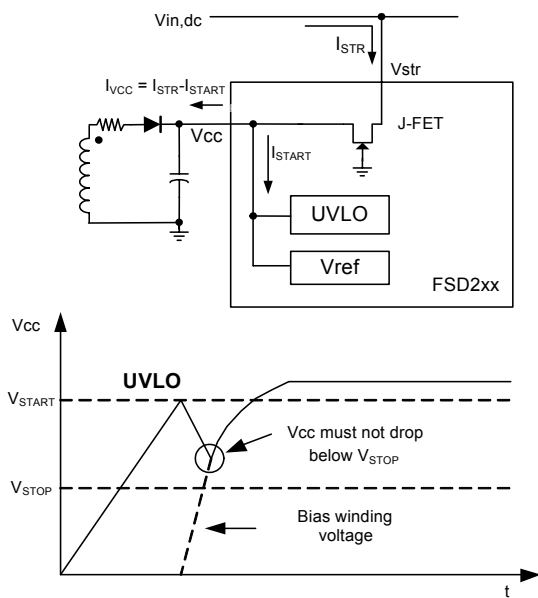

Figure 7. Charging Vcc Capacitor through Vstr
1. Startup : At startup, the internal high voltage current source supplies the internal bias and charges the external Vcc capacitor as shown in Figure 7. In the case of the FSD210B, when Vcc reaches 8.7V the device starts switching and the internal high voltage current source is disabled. The device is in normal operation provided that Vcc does not drop below 6.7V. After startup the bias is supplied from the auxiliary transformer winding. In the case of FSD200B, An internal high voltage regulator (HV Req.) located between Vstr pin and Vcc pin regulates the Vcc to be 7V and supplies operating current, thus FSD200B needs no auxiliary bias winding.